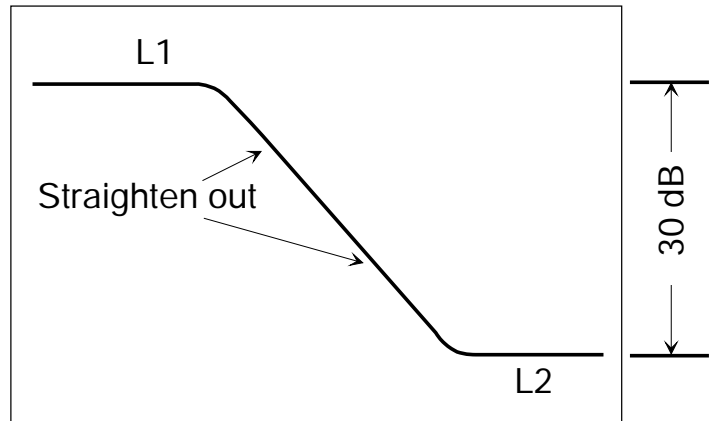

Figure 4-4. Typical Switched Filter Shaper Calibration Waveform
- j. Using the **Edit L1** and **Edit L2** keys and the data entry keys and controls, edit the values of L1 and L2 to produce a display on the 562 Network Analyzer similar to the one shown in Figure 4-4.